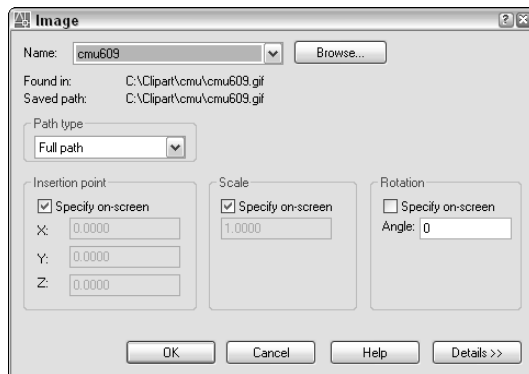

**Figure 27-5:** The Image dialog box.
Locate the image that you want to insert and click Open. The Image dialog box opens, as shown in Figure 27-5; this dialog box lets you specify how to insert the image. You can specify the insertion point, scale, and rotation in the dialog box or on-screen. This dialog box is very similar to the Insert dialog box that you use when inserting drawings and blocks.
- ♦  Choose **Attach Image** from the drop-down list at the top of the palette (or right-click any item) to insert an image, opening the Image dialog box (refer to Figure 27-5).